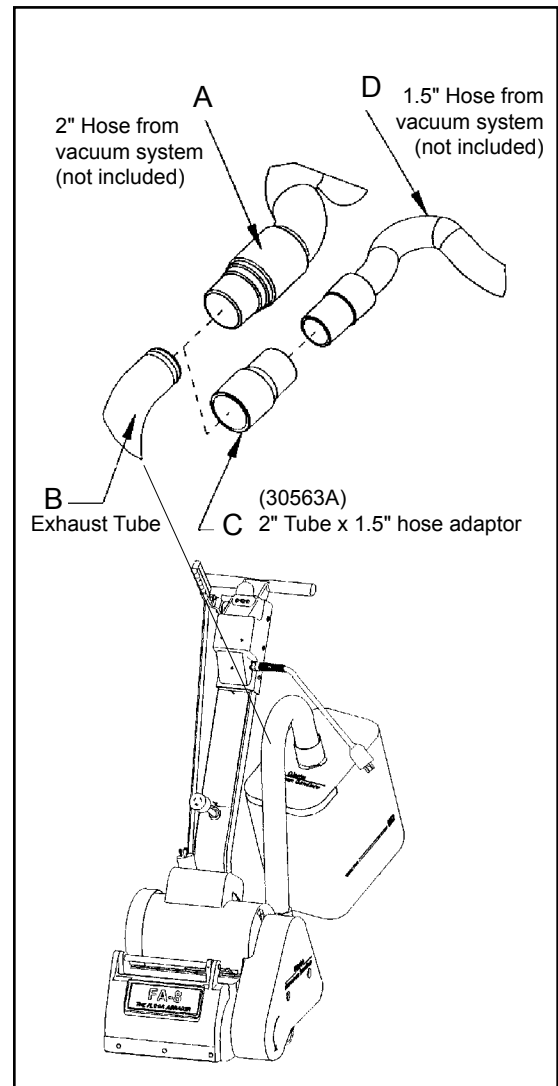

Figure 2
1. Install 2" hose end (figure 2, A) directly over the exhaust tube (figure 2, B).
1. Install the 2" x 1 1/2" hose end adaptor (Part No. 30563A) (figure 2, C) over the exhaust tube (figure 2, B).
2. Insert 1 1/2" hose end (figure 2, D) into the adaptor (figure 2, C).